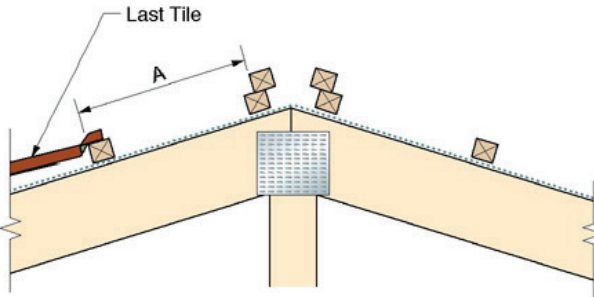

Fig 3.6.1
Measure the distance (A) from the last tile to the ridge batten (Fig 3.6.1).